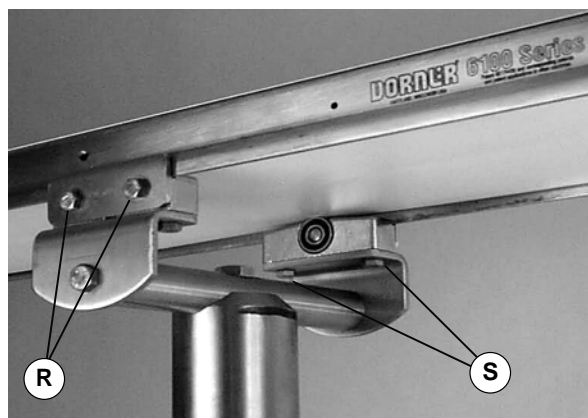

Figure 13
3. Attach clamp plates on each side of conveyor (Figure 13). Tighten the screws (R) to 92 in-lb (10.4 Nm).